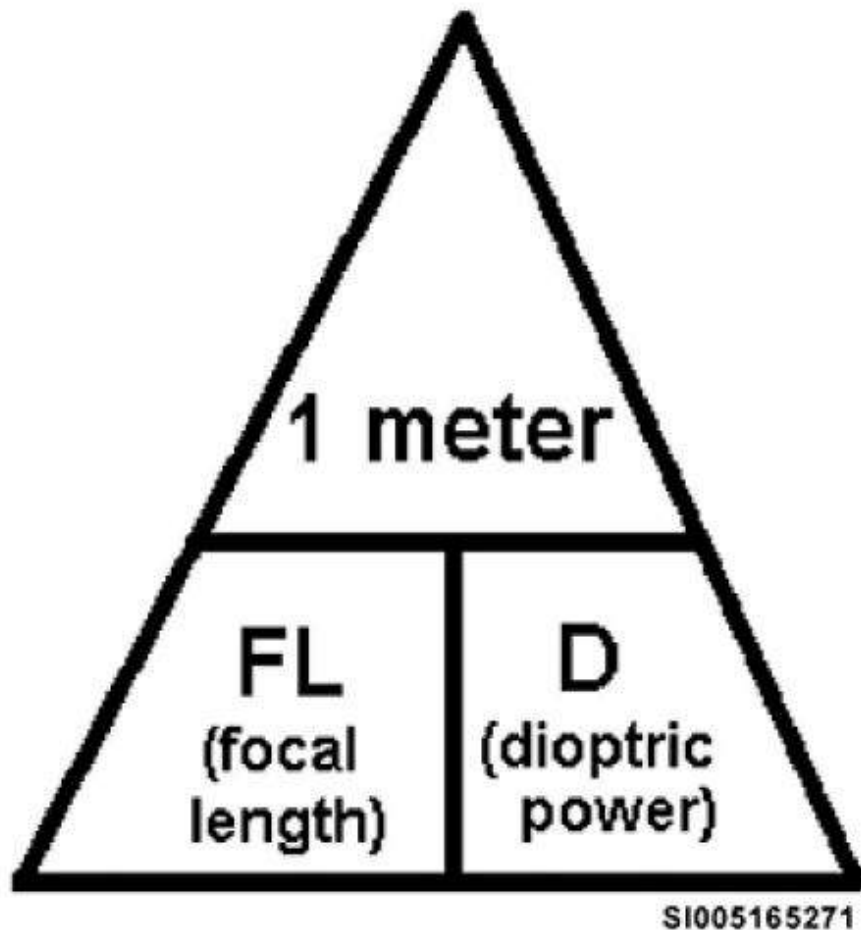

Figure 1-4. Pyramid for Calculating Dioptric Power or Focal Length.
Calculating the focal length of a lens based on its dioptric power is a straightforward process. An easy way to remember the formula for the calculation is to think of a pyramid with 1 meter at the top of the pyramid divided by the focal length (FL) and dioptric power at the base of the pyramid (fig 1-4).